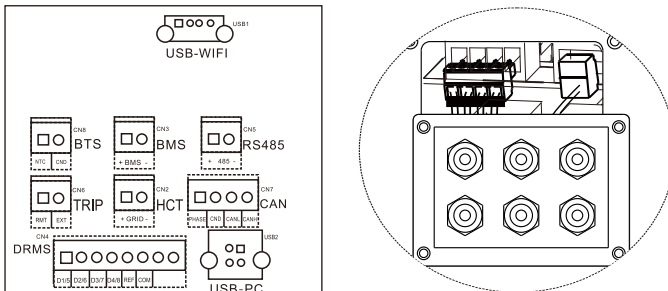

Figure 5-27
- (6) If the inverter connects to a lithium battery, you must connect the BMS to the CN3 BMS com. (Figure 5-27)
- Connect the white and black leads of the CT to the "CN2" CT terminals "+" and "-" on the COM port of the inverter. (Figure 5-27)
Connect the USB cable to the USB2 USB-PC terminal on the inverter COM port. (Figure 5-27)
The DRM0 is located on the CN6 DRM0 terminal of the inverter's front panel COM port. (See Figure 5-27)